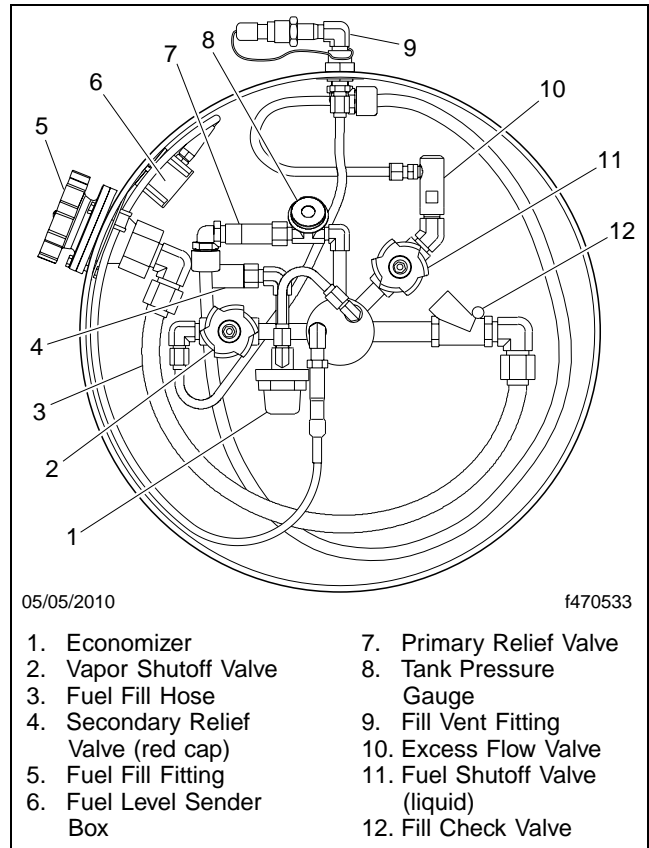

Fig. 8, Fuel Tank Plumbing Components
- 2.1 Close the liquid and vapor shutoff valves. See **Fig. 8**.
16. Open the liquid and vapor shutoff valves. See **Fig. 8**.